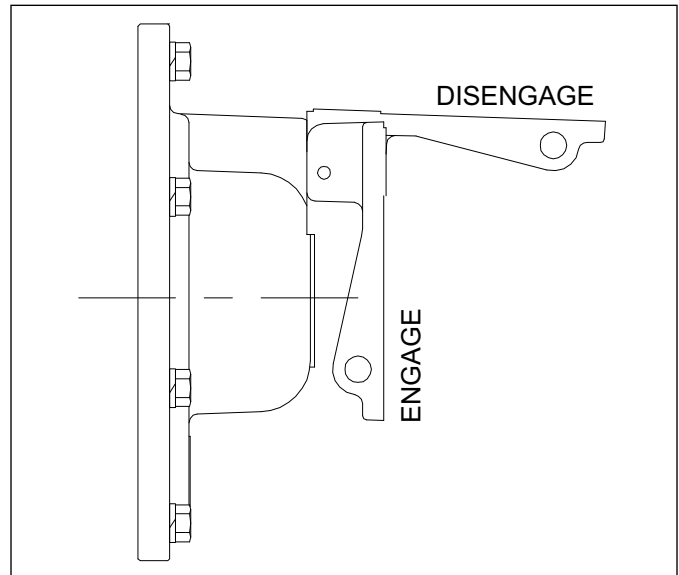

Figure 3-11: Manual Lever Kickout
2. The air freespool clutch is operated by application of air pressure to the fitting supplied on the winch gearbox housing (**See Figure 3-11.**) The fitting is designed to accept 1/4" rigid plastic tubing.